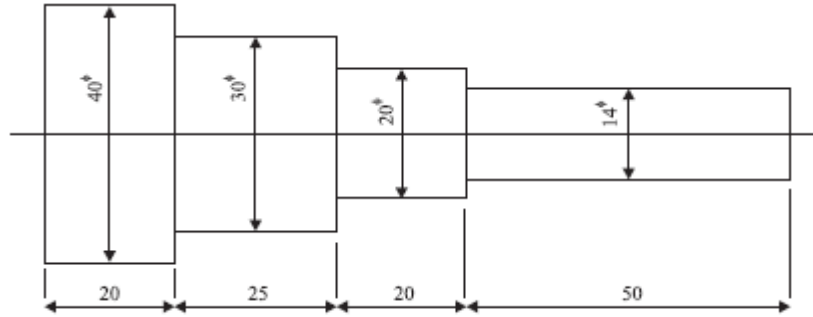

Fig. 5.7
- 7 Calculate the net weight and gross weight for the component shown in Fig. 5.7. Density of material used is 7.86 gm/cc. Also calculate: BT3